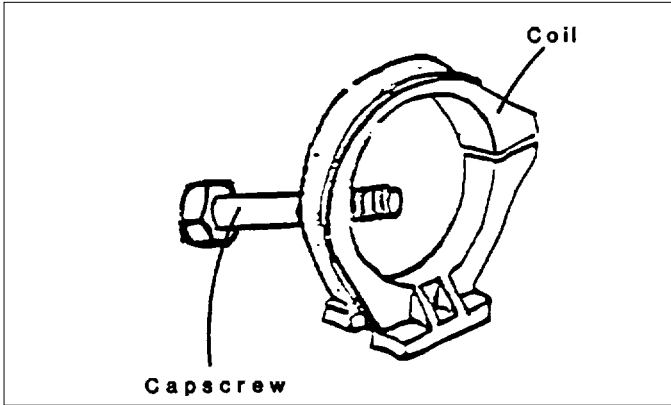

Fig. 2
- (a) Longitudinal magnetization - This procedure is intended to detect discontinuities primarily orientated in the circumferential direction. Connect the coil and place bolt threads against the side of the coil as shown in Figure 2, below. Flow fluid over threads of bolt for 3 to 5 seconds. Immediately energize coil upon stopping bath flow. Apply 1000 amperes of AC current for 1/2 to 1 second for magnetization. For bolts 1 inch and over in diameter, apply 1500 amperes of AC-current for 1/2 to 1 second. Repeat above procedure with bolt head against side of coil and fluid flowed-over the head and shank. Remove part from coil and inspect under black light.